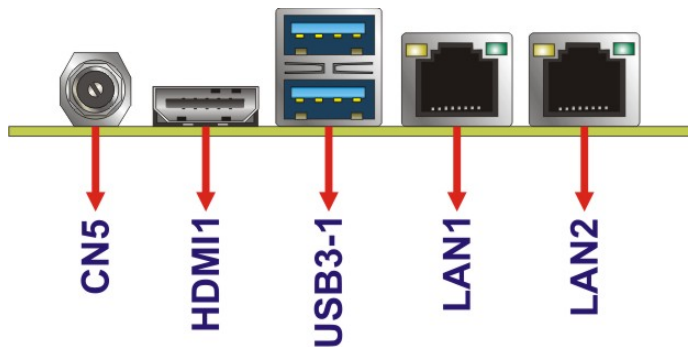

Figure 3-18: External Peripheral Interface Connector
Figure 3-18 shows the HYPER-AL external peripheral interface connector (EPIC) panel. The EPIC panel consists of the following:
CN Location: See **Figure 3-18**
- CN Location:** See **Figure 3-18**
| CN Location: | See Figure 3-18 |